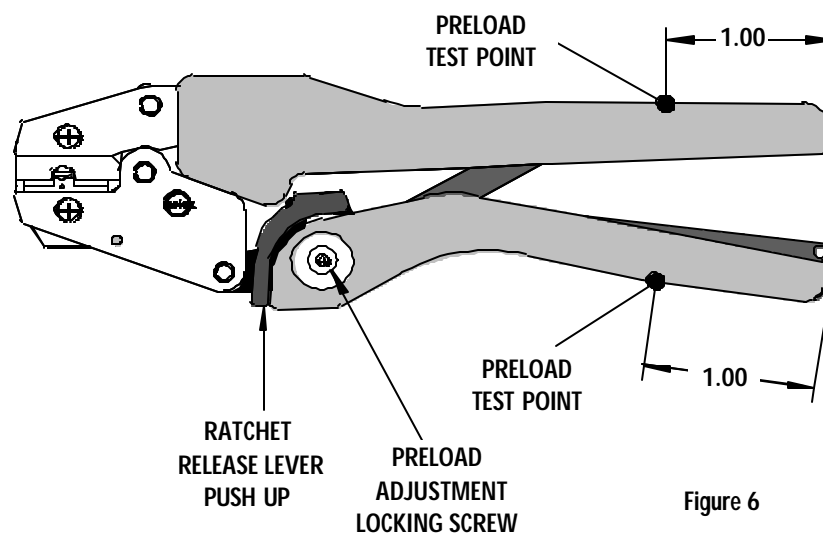

Figure 6
1. Should this tool ever become stuck or jammed in a partially closed position, **Do Not** force the handles open or closed. The tool will open easily by lifting the ratchet release lever (See Fig.6).
How To Adjust Tool Preload (See Figure 6)
A Certificate of Calibration (see last page) was supplied with the tool. To recalibrate this tool, pin gauge measurements should be taken in each conductor nest and compared to this chart. The tool should be lubricated prior to recalibration to ensure consistent measurements. Handle preload is factory set to 25-45 LBS. See How to Adjust Tool Preload (see Figure 6) to recalibrate.